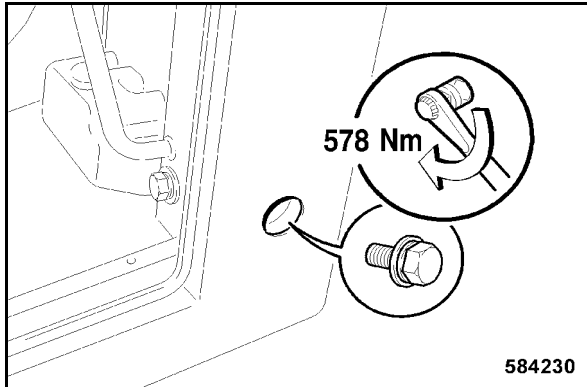

Fig. 211
- Tighten the rear lateral fastening screw on the left hand side with 578 Nm (Fig. 211).